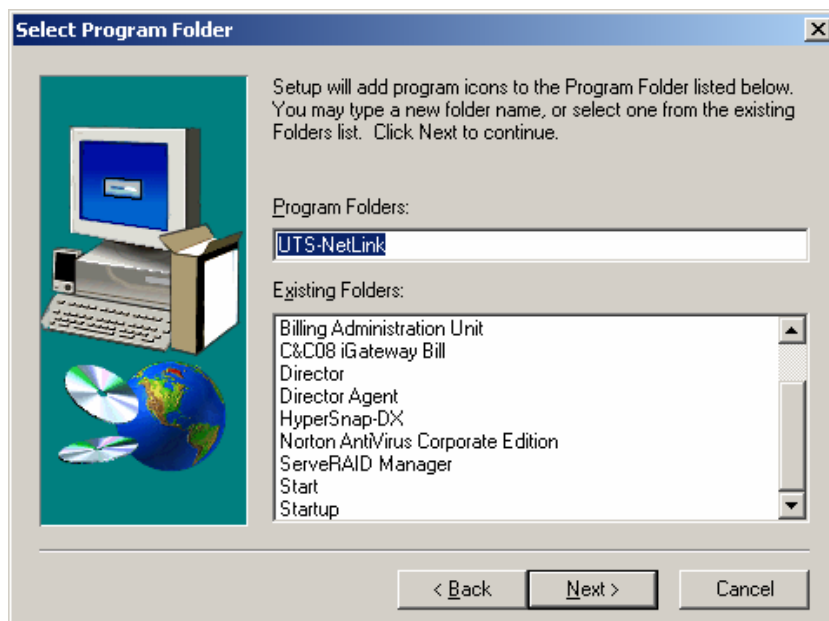

Figure 2-54 [Select Program Folder] dialog box
- 4) Click <Browse> to select a destination folder. The default destination folder is recommended. Click <Next>. The [Select Program Folder] dialog box is displayed, as shown in Figure 2-54.